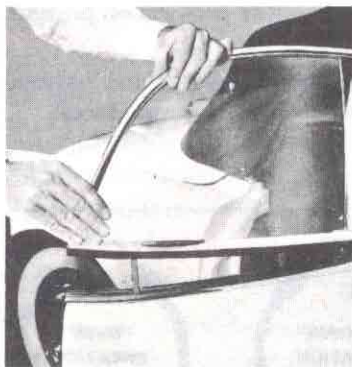

Fig. 35—Lowering Rear Extension
2. Lower serrated extension on bottom edge of assembly into slot in top of door to secure window at rear (fig. 35).